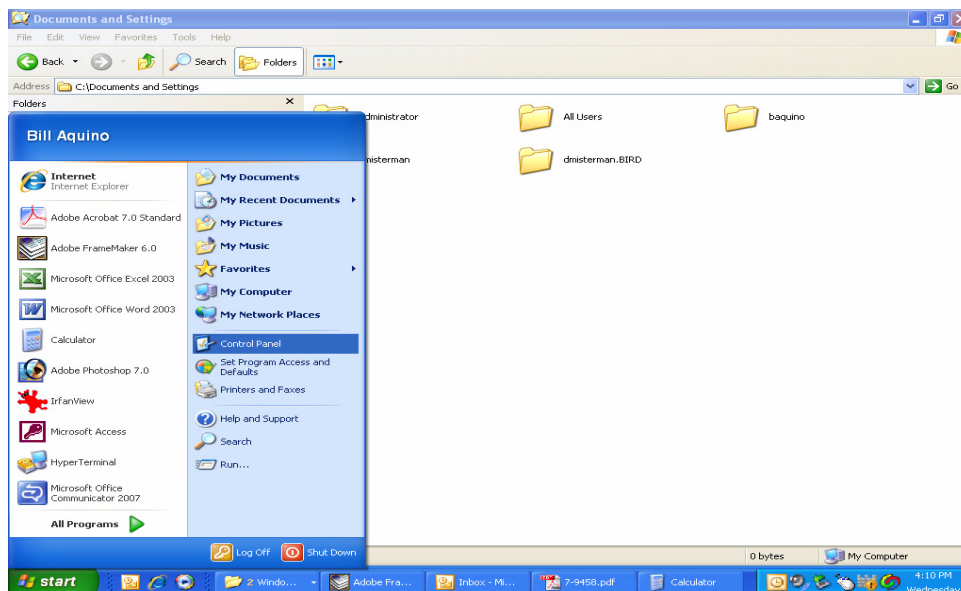

Figure B1: Choose the "Control panel" icon.
- 2) Single click the "Control Panel" choice from the "Start" pop-up menu as shown in **Figure B1**.